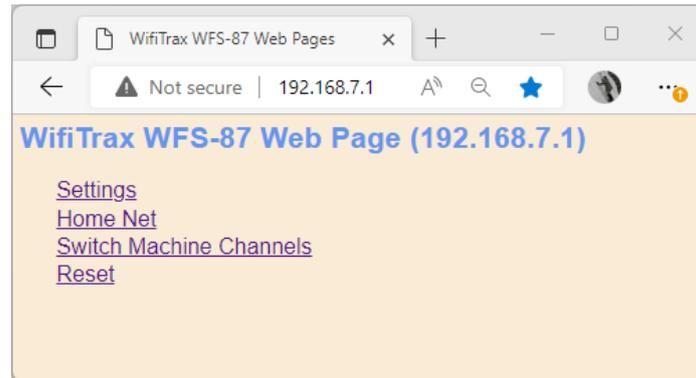

Figure 24 Main Menu of WFS-87 Module shown in a Browser
- (1) The first thing you have to do is make the WFS-87 connect to your router. So, using a computer, tablet or phone connect to its access point wftrx_WFS87_1_XXXXXXX_7. You don't need a password.
- (2) Now open a browser such as Chrome, Edge or Safari and enter 192.168.7.1 into the URL text box and hit enter. This will display the main menu of the WFS-87 module as Figure 24.